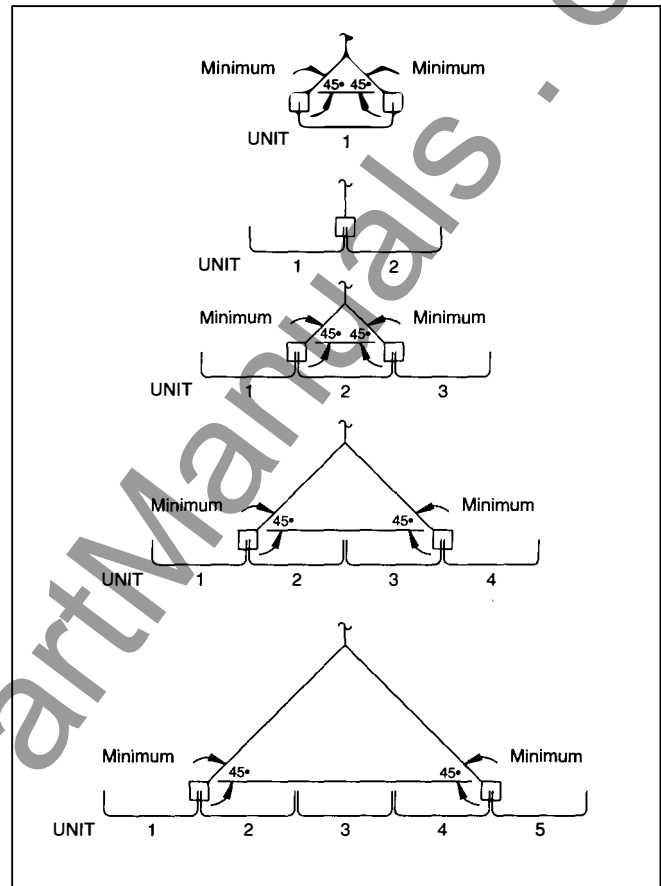
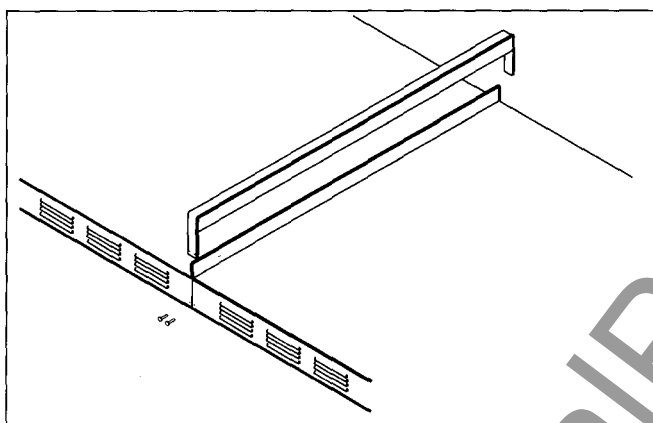

Figure 3. Lifting Points (Indoor or Outdoor)
Figure 11. Installing Outdoor Roof Channels
Both indoor and outdoor switchgear are lifted in the same manner. Both types have holes in the top of the equipment for attaching lift cables. These lift holes are located at the division between vertical sections within a shipping group. The maximum shipping group is five vertical sections, excluding the transition box to liquid transformers if involved (this is not considered a vertical section). Lift points on the equipment are labeled and lift connections are to be made only at these points. (See **Figure 3**).
On outdoor switchgear the outdoor roof channels (See **Figures 3** and **10**) are not installed at the factory, to allow access to the lift holes. Be sure to install the roof channels immediately after lifting to make the equipment weather resistant. See **Figure 11**.
Outdoor switchgear: Use of a fork lift truck to handle or move outdoor switchgear is NOT recommended. Outdoor switchgear should be lifted only from above, using the attachment points shown in **Figures 3** and **10**.
8. Be sure to install roof channels on outdoor switchgear to make the equipment weather resistant. See **Figure 11**.
When storing outdoor switchgear in an area exposed to the weather or to humid conditions, energize the space heaters provided within the sections and make certain that louvers and vents are uncovered to allow air to circulate. The heater circuit is accessible by opening the rear door of the switchgear. Refer to the switchgear wiring diagram to determine where space heater connections can be made. Lubricate any moving parts such as hinges, shutters, etc., if storage is for an extensive period of time. **DO NOT LUBRICATE** slide rails or aluminum hinge gear on metal shutter (if provided). Be sure to install roof channels during storage to make the equipment weather resistant. See **Figure 11**.
Install roof channels as shown in **Figure 11**.